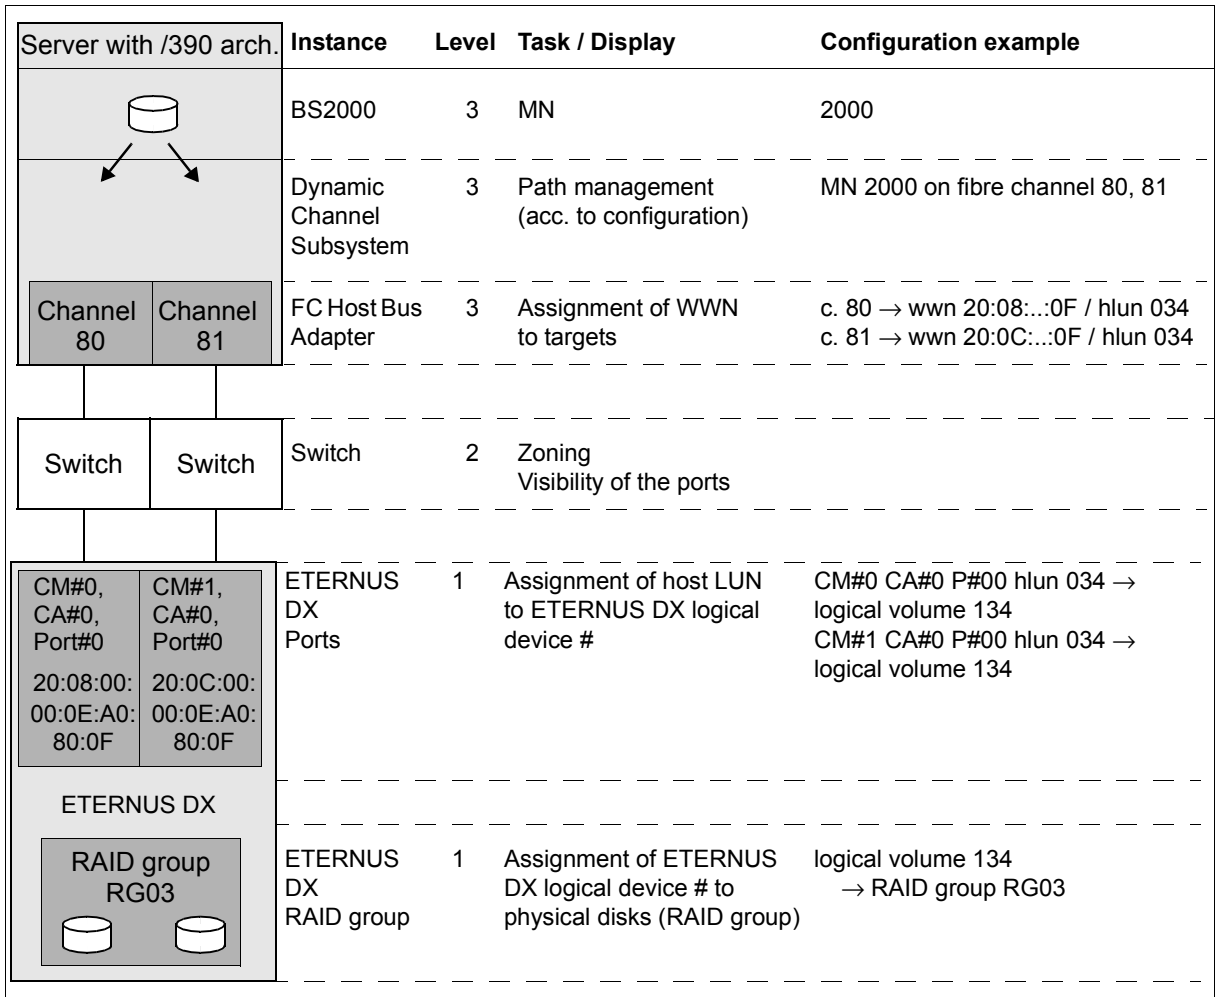

Figure 4: Configuration of the units on /390 servers for ETERNUS DX
BS2000 disks connected to a /390 server via a channel must be configured on storage system (1), switch (2) and BS2000 (3) levels (the level numbers as used in figure 4 on page 34 are in parentheses). The figure shows the various levels, taking ETERNUS DX as an example. The same applies for Symmetrix/ VMAX3. The WWN of the Fibre Channel port (WWPN) of the storage system must be set for the channel at generation.